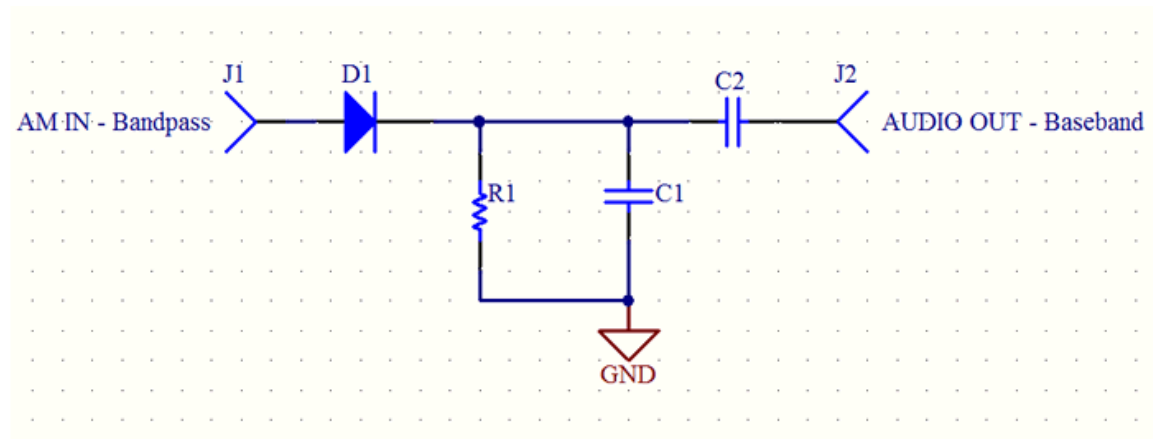

Figure 2. Passive Envelope Detector Circuit
* The circuit for the passive envelope detector is shown in Figure 2. The design equation for the first-order low-pass filter made up by C1 and R1 is: